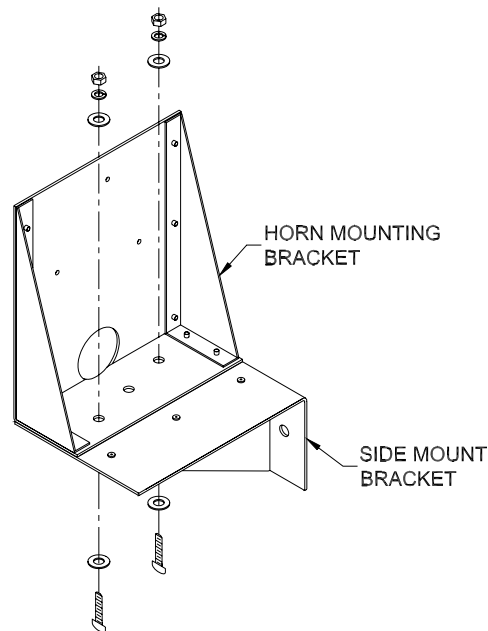

Figure 10 Side Mount Bracket Removal
6. The horn mounting bracket has a side mount bracket attached. If the horn is going to be mounted on top of the scoreboard, remove the side mount bracket as seen in figure 10.